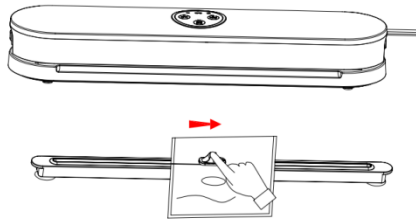

Fig.8
2. Place the roll bag or vacuum bag on the cutting knife and adjust the length you need. As shown in Figure 8.